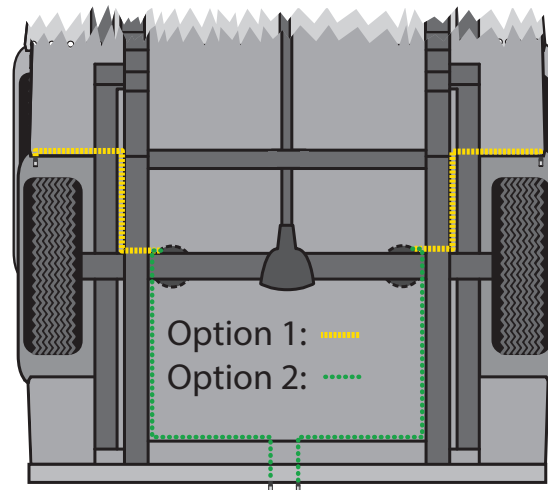

fig. 14
4. Place a 5/16" nut and star washer on the air valve. Leave enough of the inflation valve in front of the nut to extend through the hole and have room for the rubber washer, flat washer, and 5/16" nut and cap. There should be enough valve exposed after installation – approximately 1/2" – to easily apply a pressure gauge or an air chuck (Fig. 14).